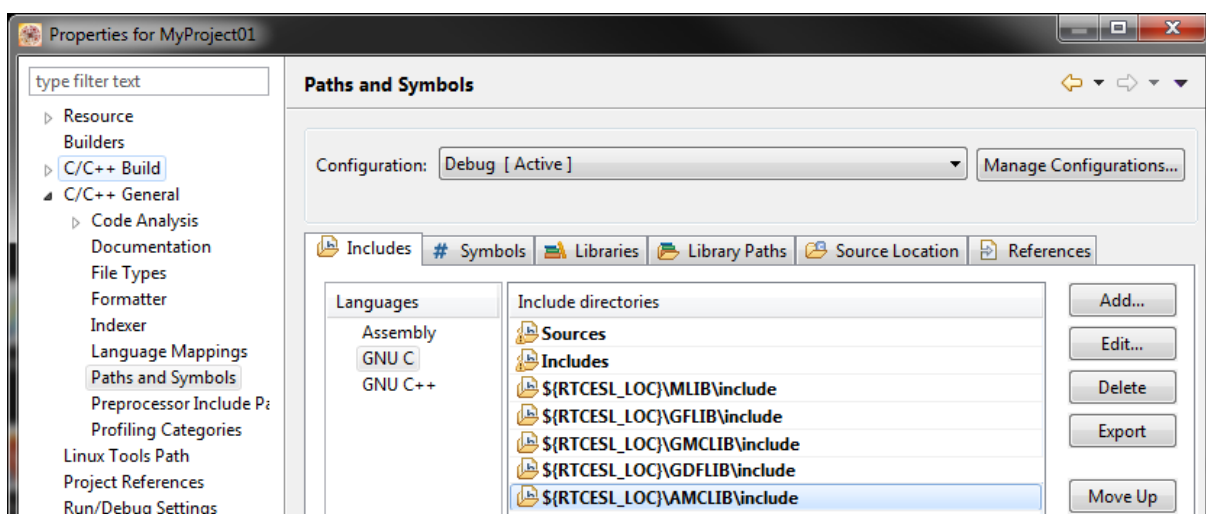

Figure 1-24. Compiler setting
27. In the right-hand dialog, select the Includes tab, and click GNU C in the Languages list. See Figure 1-24.
38. Click OK, and you will see the paths added in the list. See Figure 1-24. Click OK.